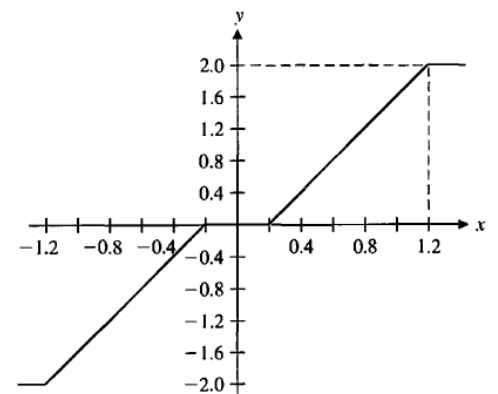

FIGURE E2.25
9. An amplifier may have a region of dead-band as shown in Figure E2.25. Use an approximation that uses a cubic equation $y = ax^3$ in the approximately linear region. Select a and determine a linear approximation for the amplifier when the operating point is $x = 0.6$.